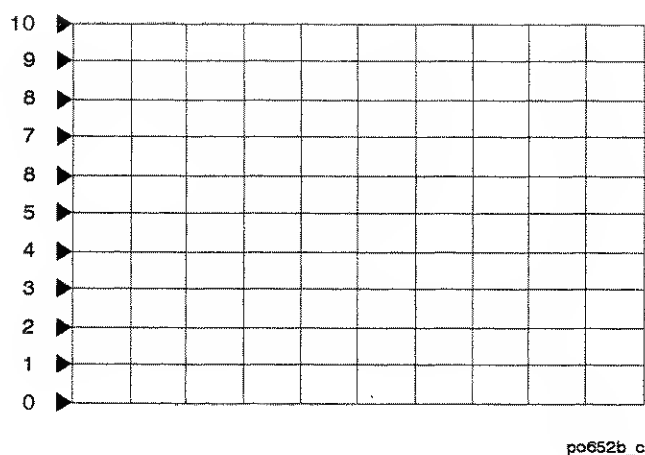

Figure 4-19. Reference Positions
1. If you want to move the reference position (indicated by the ► symbol on the left side of the display), press **SCALE** **Reference Position** and then use the front panel knob, the **↑** **↓** keys, or the numeric keypad to enter a new reference position. A number is assigned to each possible reference position. See Figure 4-19.
1. If you want to move the reference position (indicated by the ► symbol on the left side of the display), press **(SCALE) Reference Position** and then use the front panel knob, the **(↑) (↓)** keys, or the numeric keypad to enter a new reference position. A number is assigned to each possible reference position. See Figure 4-19.